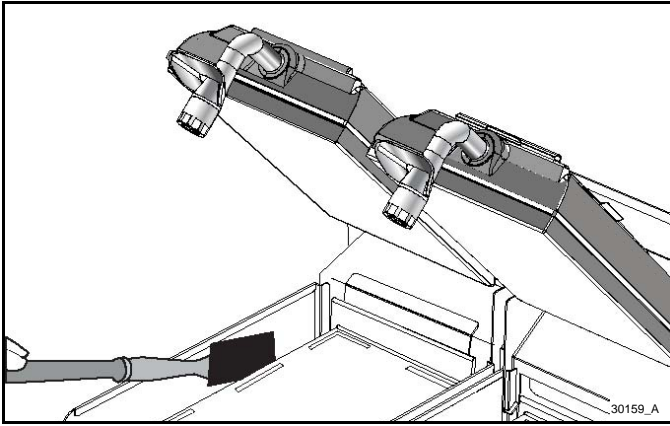

Figure-160
31. Scrub the lower plate sides. Repeat until the sides are fully covered. See Figure-160.